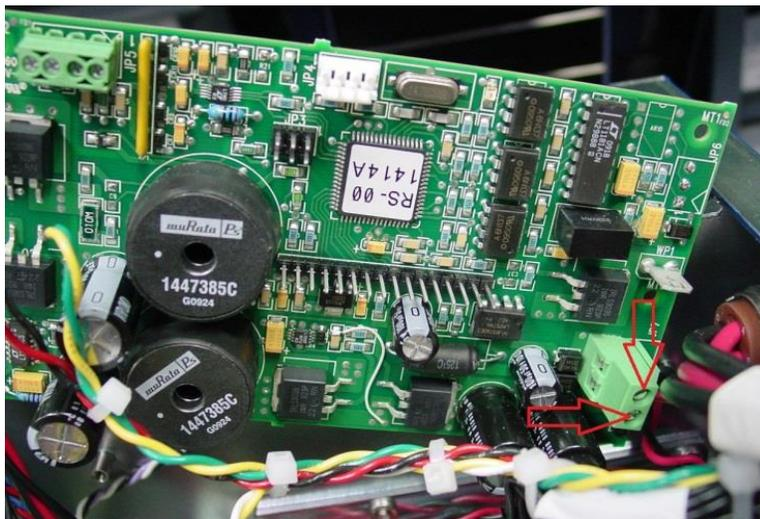

Figure 6: Partially Remove Board and Loosen Screws on JP7
10. With a screwdriver, loosen the screws holding the red wire and black wire into **JP7**. Remove the wires from **JP7** shown in Figure 6.